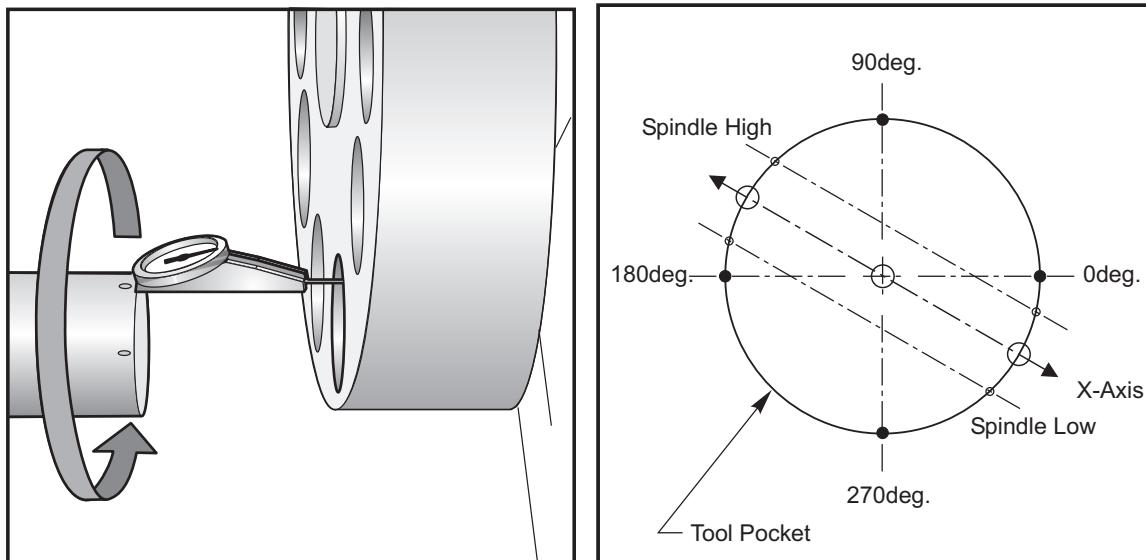

Figure 3.1-3. Turret Pocket Alignment
3. Mount the spindle alignment tool onto the spindle retainer ring with the dial indicator mounted to the end of the tool. Refer to Figure 3.1-3.